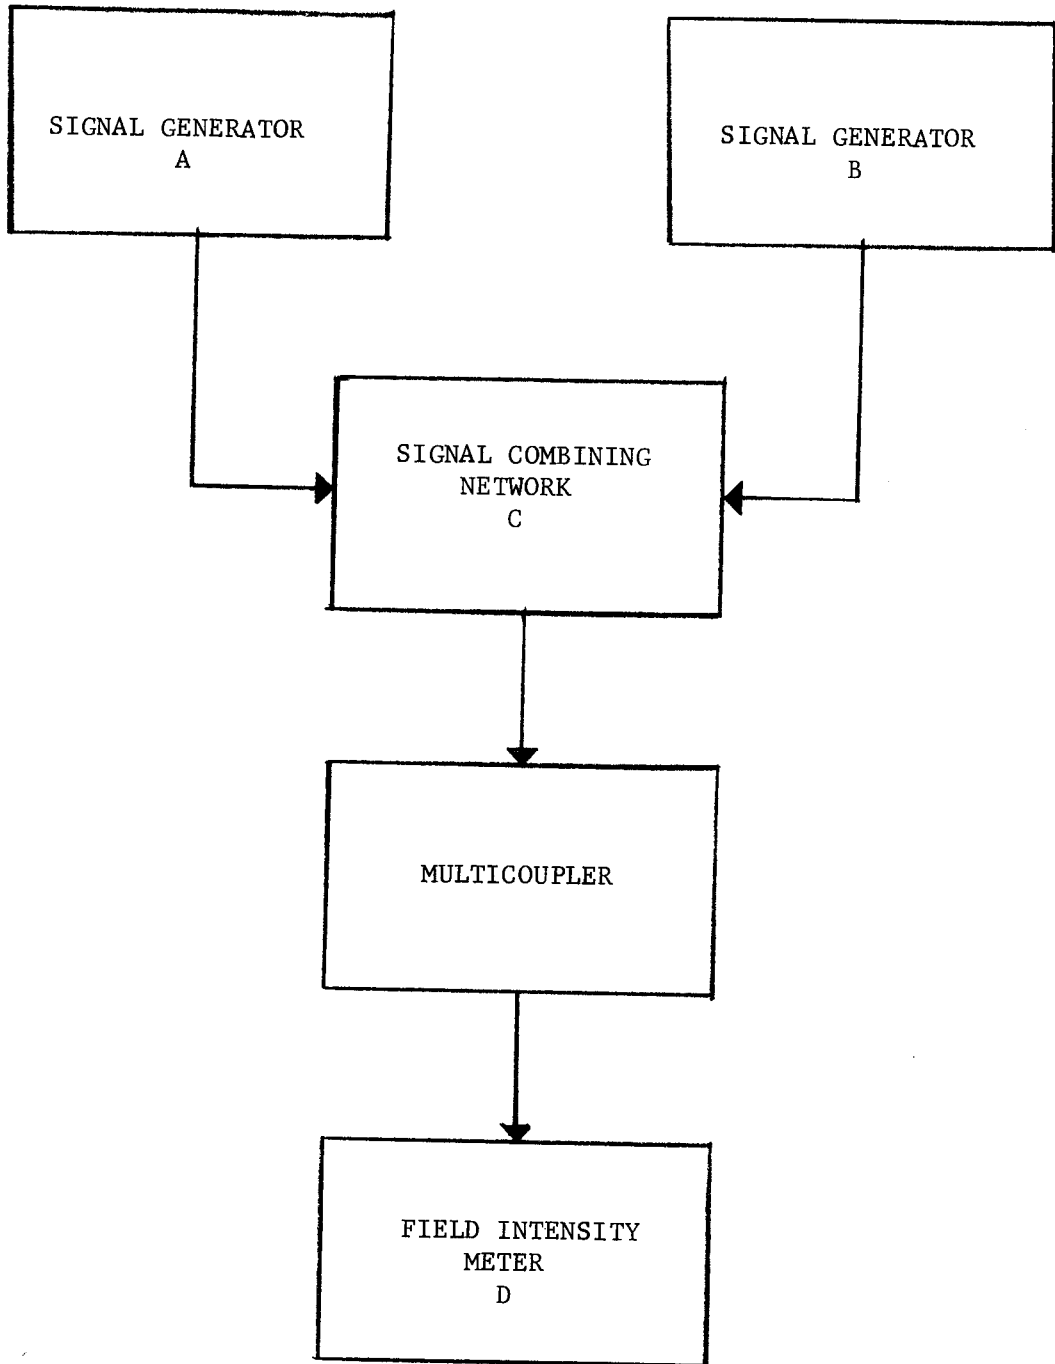

FIGURE 2.3
1. Connect the equipment as indicated in Figure 2.3.